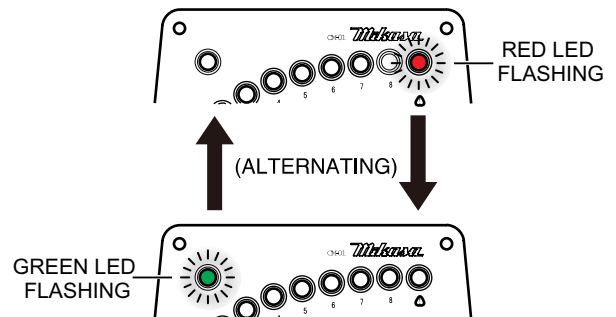

Figure 29. Sensor Wire Disconnection
3. If red and green LEDs are flashing alternately as shown in Figure 29 then please check the sensor wire because there is a possibility that it is disconnected.